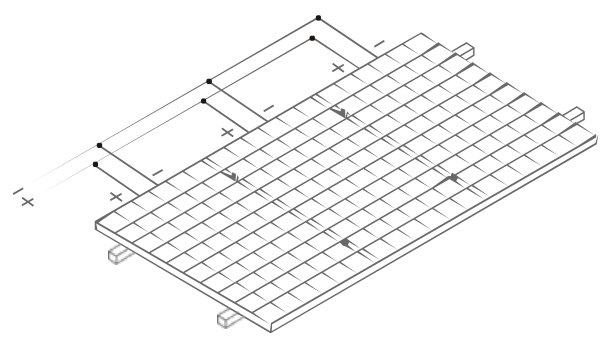

Figure 6. Connection in parallel
- When connected in parallel, the current output is equal to the sum of each string's current (as shown in Figure 6). A fuse is necessary for each module string. Take reference to the local regulations. Recommended maximum parallel Module configurations: Fuse rating/ (1.25\* short-circuit current). Please refer to the national or local regulations for details.